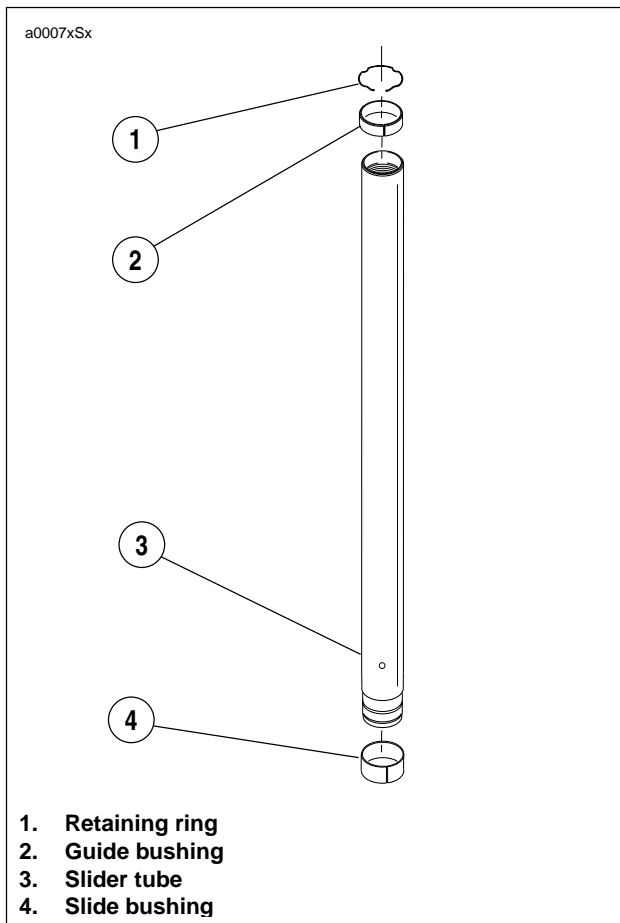

Figure 2-77. Slider tube Components
2. See Figure 2-77. Check the slider tube for score marks, scratches and excessive or abnormal wear. Replace if worn or damaged.